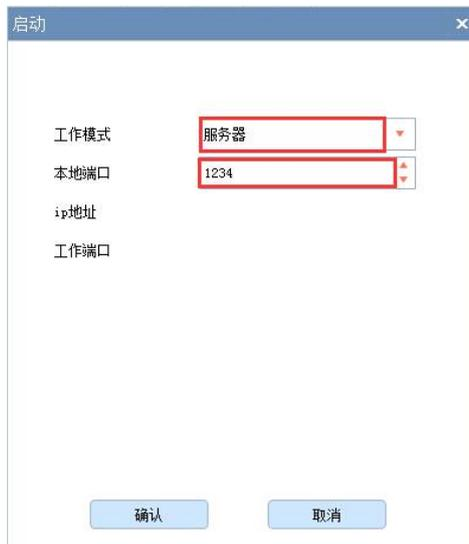

Figure 4.27 Configuration interface
- 2) Configure the server, as shown in Figure 4.27.